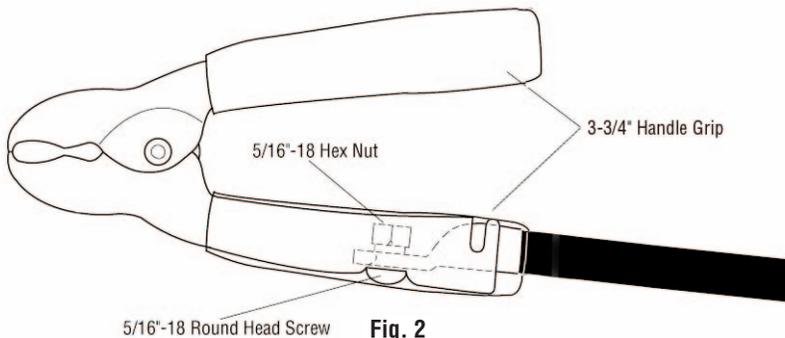

Fig. 2
8. One handle of the booster clamp is formed so that the heavy wall lugs will nest inside. Bolt the lug into place according to Figure 2.
9. Slide the 3-3/4” (95mm) handle grip down over the handle and lug, according to Figure 2.
10. Push the other handle grip onto the other handle. Make certain the grips are the same color on both handles. See Figure 2.